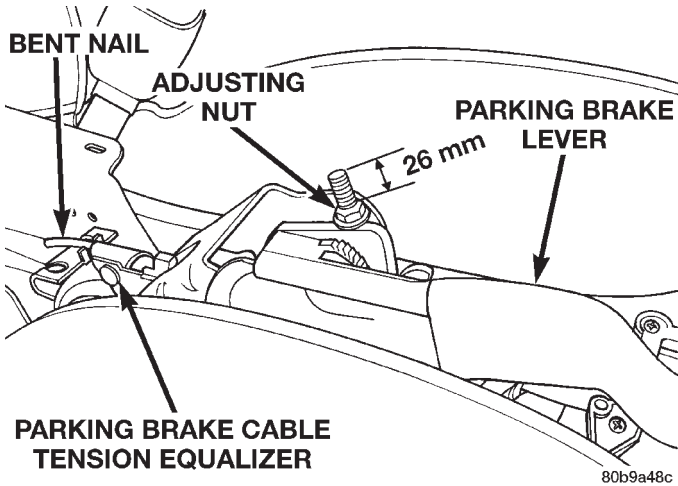

Fig. 167 Parking Brake Adjustment (Rear Disc Brakes)
- On vehicles with REAR DISC BRAKES, tighten the adjusting nut on the parking brake lever output cable until 26 mm millimeters of thread is out past top edge of adjustment nut (Fig. 167).